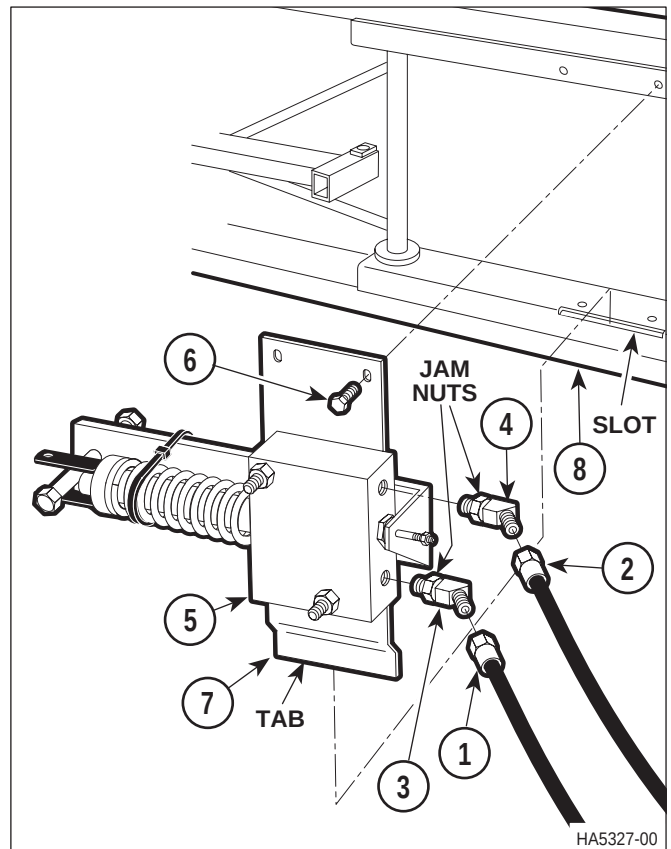
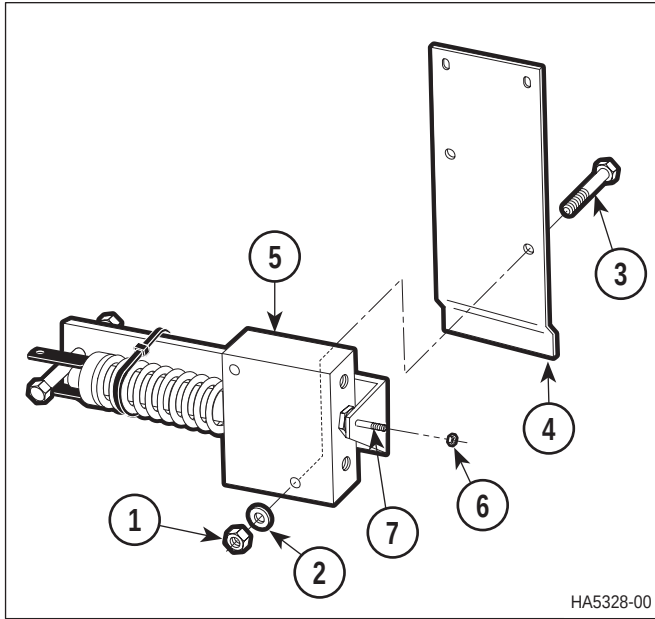

Figure 4-8. Pump Assembly Removal / Installation
Figure 4-9. Pump Assembly Disassembly
- (11) Tag and disconnect hoses (1 and 2, Figure 4-8) from elbows (3 and 4).
- (12) Loosen jam nuts; then remove elbows (3 and 4) from pump assembly (5).
- (13) Remove two screws (6) and pump assembly (5) from chassis (8).
- (14) Remove two nuts (1, Figure 4-9), washers (2), screws (3), and pump plate (4) from pump assembly (5).
- (15) Remove nut (6) from manual relief valve stem (7).
- (1) Install nut (6, Figure 4-9) on manual relief valve stem (7). Tighten only one or two turns.
- (2) Install pump plate (4) on pump assembly (5) and secure with two screws (3), washers (2), and nuts (1).
- (3) Install tab of pump plate (7, Figure 4-8) in slot in chassis (8) and secure with two screws (6).